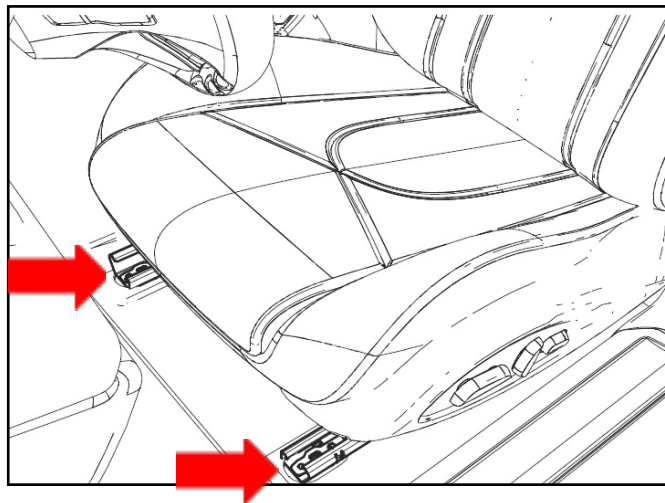

fig. 1a
- 1) Loosen the front driver seat mounts, install torque 25Nm (fig. 1a)